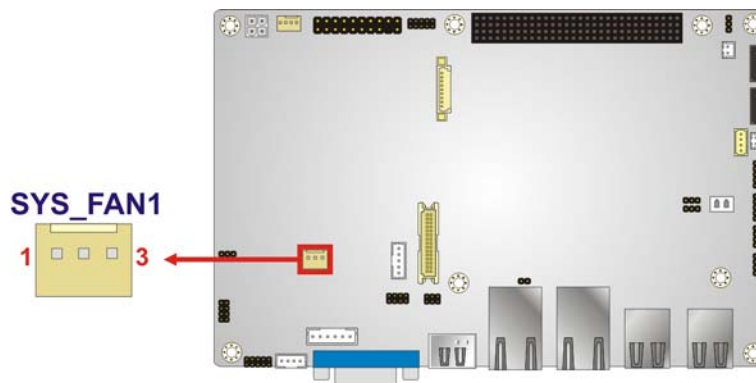

Figure 3-10: System Fan Connector Location
- CN Location: See **Figure 3-10**